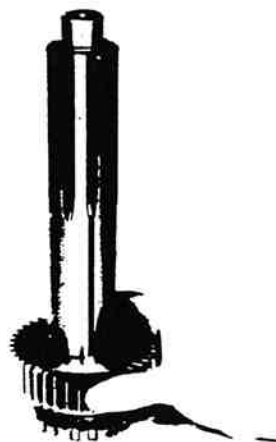

Figure 13-98. Drive Gear on Shaft.
2. Install the drive gear on shaft, engaging internal splines of gear with teeth on shaft, retaining ring of gear toward the front (figure 13-98).